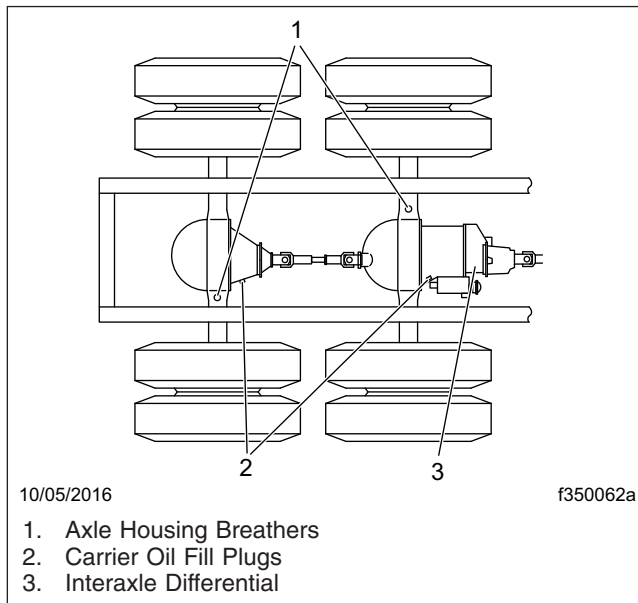

Fig. 8, Meritor Axle Housing Breathers
5. Check the axle housing breather. Make sure that it is open and unclogged. See Fig. 8. If the breather is plugged or damaged, clean or replace it as needed.